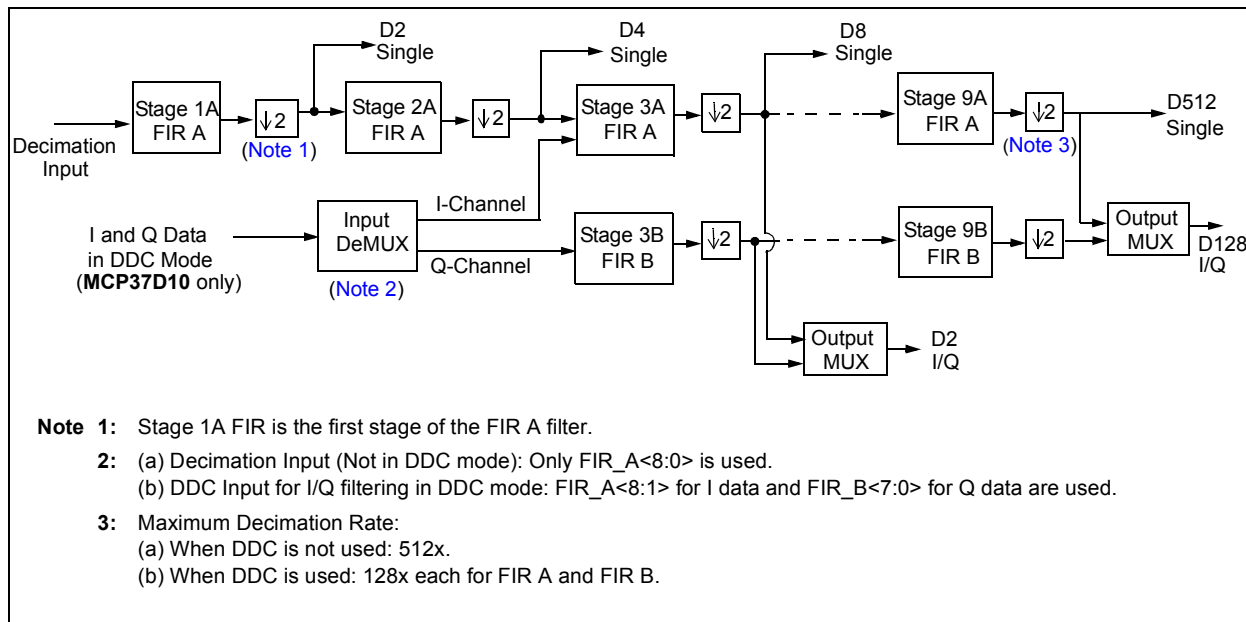

FIGURE 4-13: Simplified Block Diagram of Decimation Filters.
Figure 4-13 shows a simplified decimation filter block diagram, and Table 4-13 summarizes the related control parameters for using decimation filters.
- **MCP37D10-200:** (a) When DDC mode is not required, only FIR A is used; (b) When digital down-conversion (DDC) is used for I and Q data filtering, both FIR A and FIR B filters are used (see Figure 4-13). In this case, both are set to the same decimation rate. Note that stage 1A in FIR A is unused: the user must clear FIR_A<0> in Address 0x7A (Register 5-35).